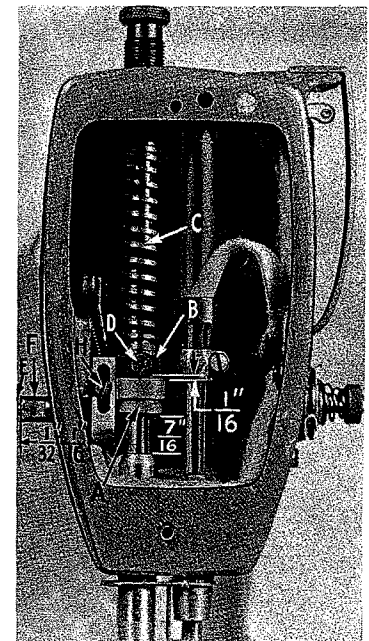

Fig. 16 A
When locating the presser bar guide (B, Fig. 16 A), the presser foot must rest directly against the throat plate with the feed dog in its lowest position. The guide is set properly when there is a $1/16$ inch (1.59 mm) space between guide (B) and presser bar connection (A, Fig. 16 A).